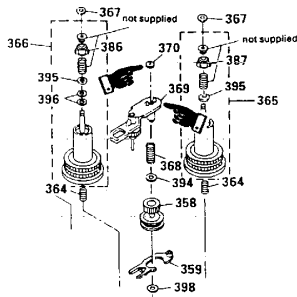

Figure 2a
1. Remove retaining washer (ref. 370) which holds the F/R Lever Assembly (ref. 369) in from the top side of the mechanism and remove the F/R Lever Assembly (see Figure 2a).